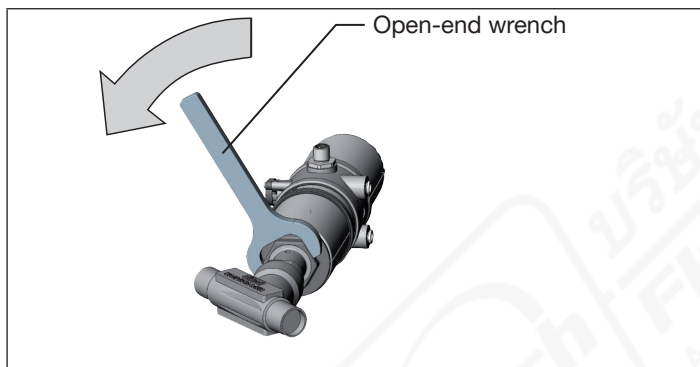

Fig. 23: Rotating with open-end wrench
- ▶ Only turn the actuator in the specified direction (see „Fig. 23“!)